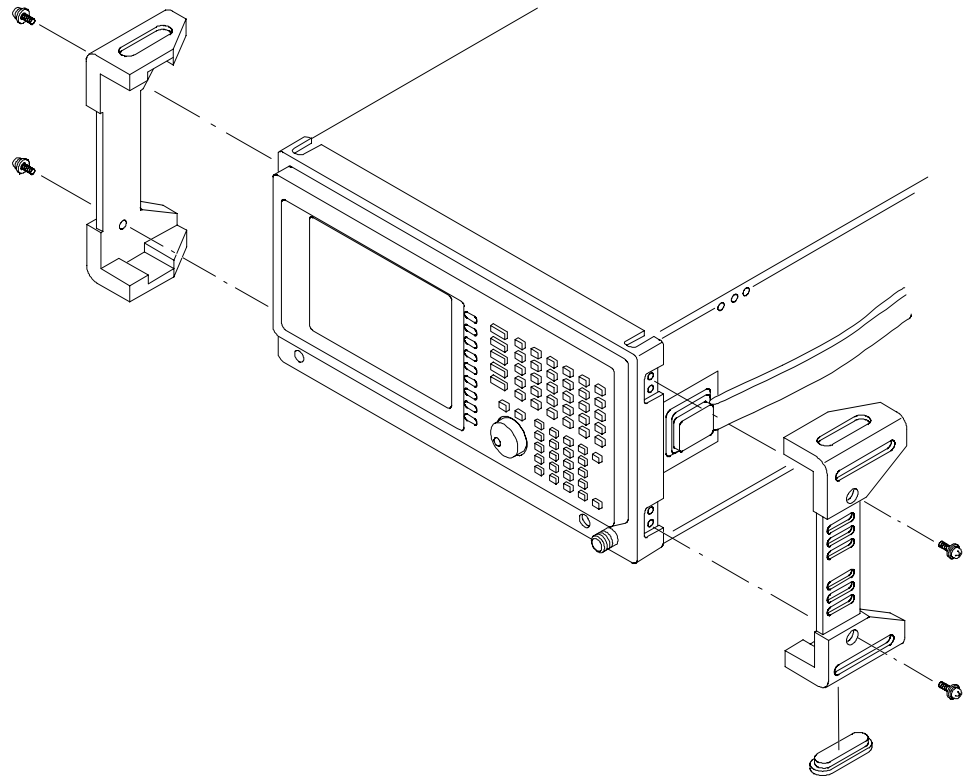

Figure 6-13: Front cushion removal
3. *Remove the front cushion:* See Figure 6-13.